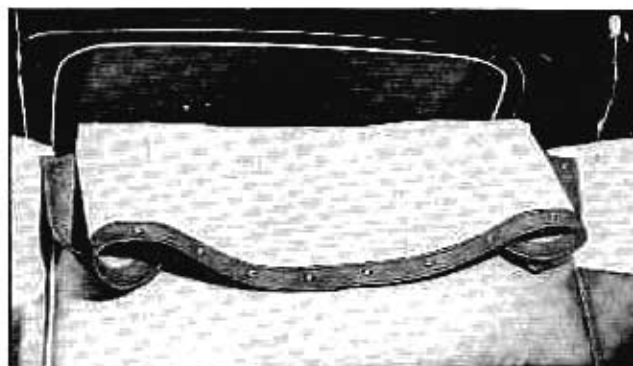

Fig. 7-2 Top Boot Folded
1. Stop the car. If top boot has been stored in its retainer behind rear seat, turn boot over seat back and fold ends (Fig. 7-2). It is not necessary to lower rear window or rear quarter windows before lowering top.